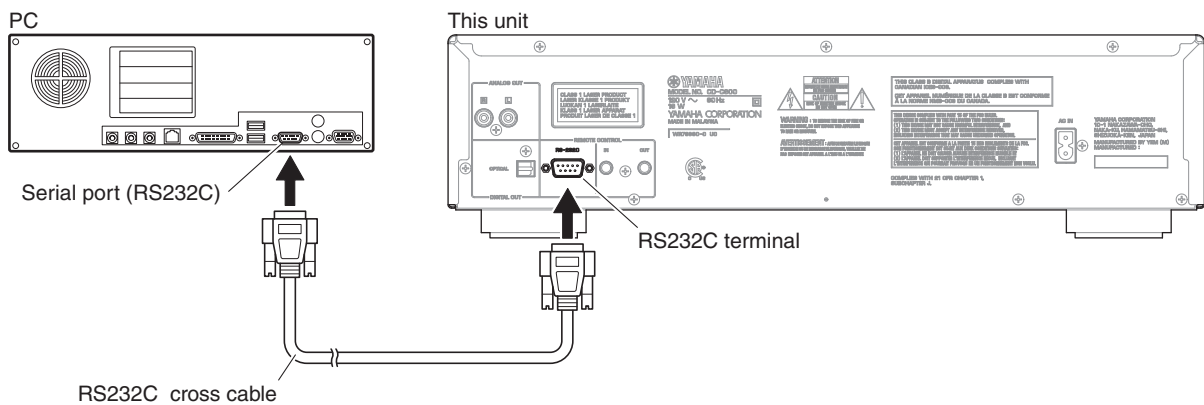

Fig. 3
4. Connect the RS-232C terminal located on the rear panel of this unit to the serial port (RS232C) of the PC with RS232C cross cable as shown below. (Fig. 3)